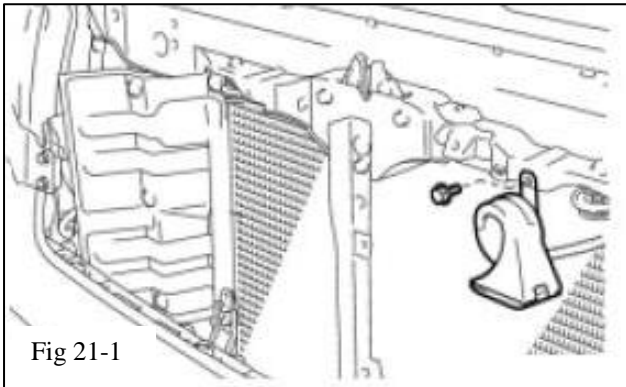

Fig 21-1
- (a) Disconnect the low pitch horn connector. Unbolt and remove the low pitch horn (Fig 21-1). Set the horn and bolt aside for now.